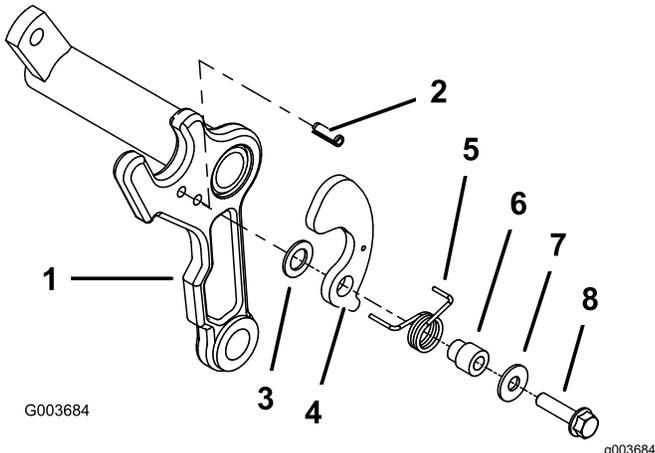

Figure 3
- Install a roll pin into the lower hole in the appropriate side of the carrier frame of each cutting unit (Figure 3).
a flat washer (11/32 x 7/8 inch), and a bolt (5/16 x 1-1/4 inches); refer to Figure 3.